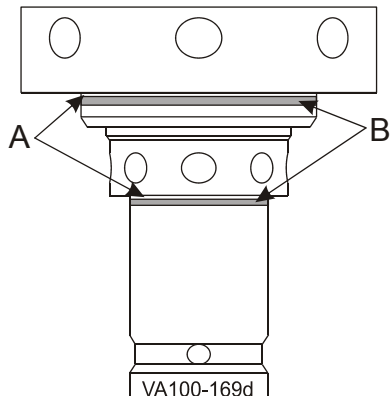

Figure 30 - Assembly
3. Screw the upper stem in until the scribe line (Figure 30, item A) within the etch mark adjustment zone (item B) aligns with the bottom of the adjustment sleeve. This is the factory-set lower seat clean position. See “Seat Cleaning Adjustment” on page 22 for instructions on modifying the seat clean movement.